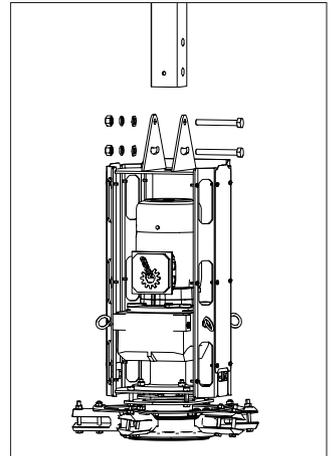

Fig4.3 Installation of the driving unit
(1) The drive device has been installed into a unit before shipping out, only fix it to the extension rod by using bolts, as shown in figure 4.3.
(2) Due to the drive device weight, 2–3 people are needed to install. If there is a scissors lift, you can use the lift to assist in assembly, the hoisting weight of the lifting equipment shall not be less than 440lbs, the hoisting process must be slow, even, and at the same time it needs someone to hold the drive device, to prevent oscillation.
(3) Do not remove oil plug until fan is properly mounted. If the oil plug is removed before the fan is mounted, oil in the gear reducer may spill out.